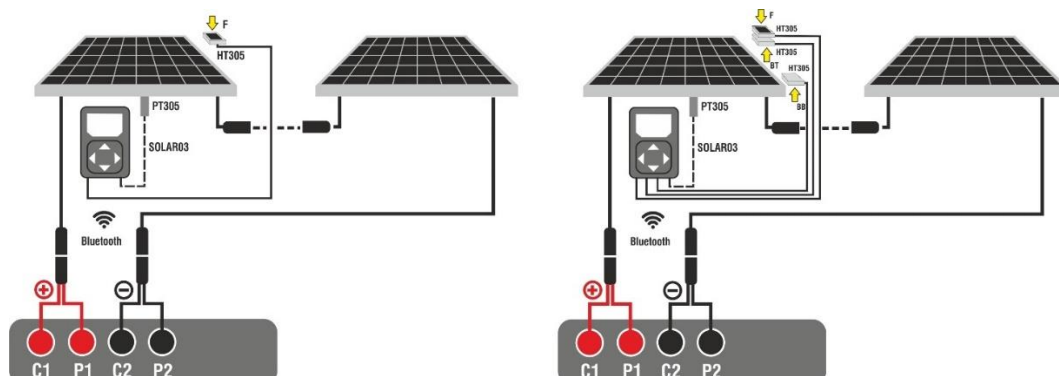

Fig. 64: Connection with remote unit SOLAR03 on Monofacial and Bifacial modules
3. Connect the instrument and the SOLAR03 remote unit to the module/string being tested as shown in Fig. 64. In detail:
- **In case of Bifacial modules**→, position the **three HT305 reference cells** on the front surface of module (**F**), on the top back section (**B T=BackTop**) and on the bottom back section (**BB=BackBottom**) of the module. Connect the front reference cell (F) to input "INP1", BT reference cell to input "INP2", BB reference cell to input "INP3" and **possibly** the temperature probe **PT305** to input "INP4" of the remote unit. In accordance with the IEC/EN60904-1-2 standard, the instrument calculates the equivalent front-side Irradiance (**Irreq**) value, which corresponds to the Irradiance on the front surface only, which produces the same effects as the Irradiance measured on both sides, considering the **bifaciality factor** (ϕ) of the module according to the following relationship: